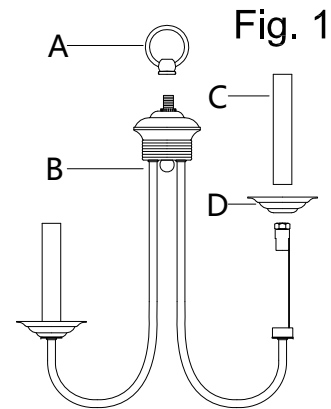

Fig.1.1
**** If you not need assembly the fixture loop. Please pause and refer to Fig. 1.1.**